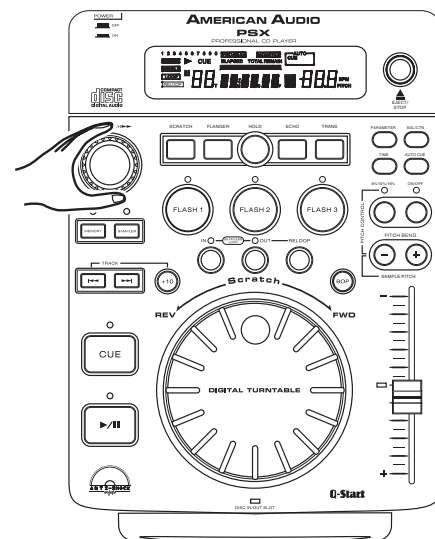

Figure 14
REPLAY LOOP - The *RELOOP* (19) function allows you to return to your stored loop at any time. The *IN BUTTON* (12) and *OUT BUTTON* (18) LEDs will indicate a loop is stored in memory, and may be played at any time. To replay the loop, press the *RELOOP BUTTON* (19). The *IN BUTTON* (12) and *OUT BUTTON* (18) LEDs will again begin to flash indicating SEAMLESS LOOP mode has been activated (Figure 14) and your stored loop will immediately begin to play.